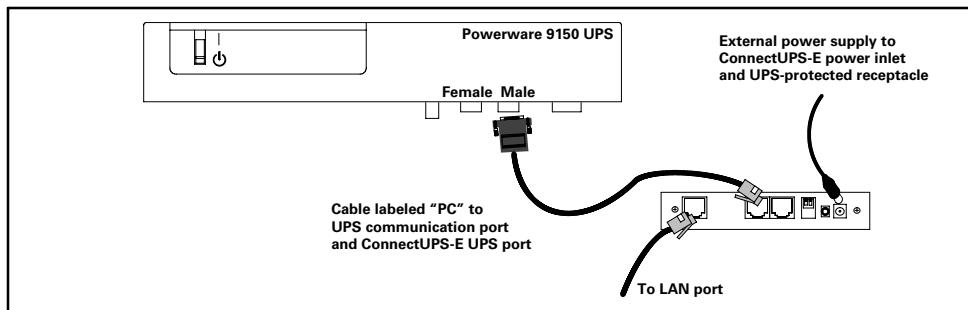

Figure 8. Alternate Installation with a Powerware 9150 UPS
4. **If the female port is not available**, use the supplied serial cable (labeled "PC") to connect the UPS port on the ConnectUPS-E to the male, 9-pin, RS-232 port on the UPS (see Figure 8).